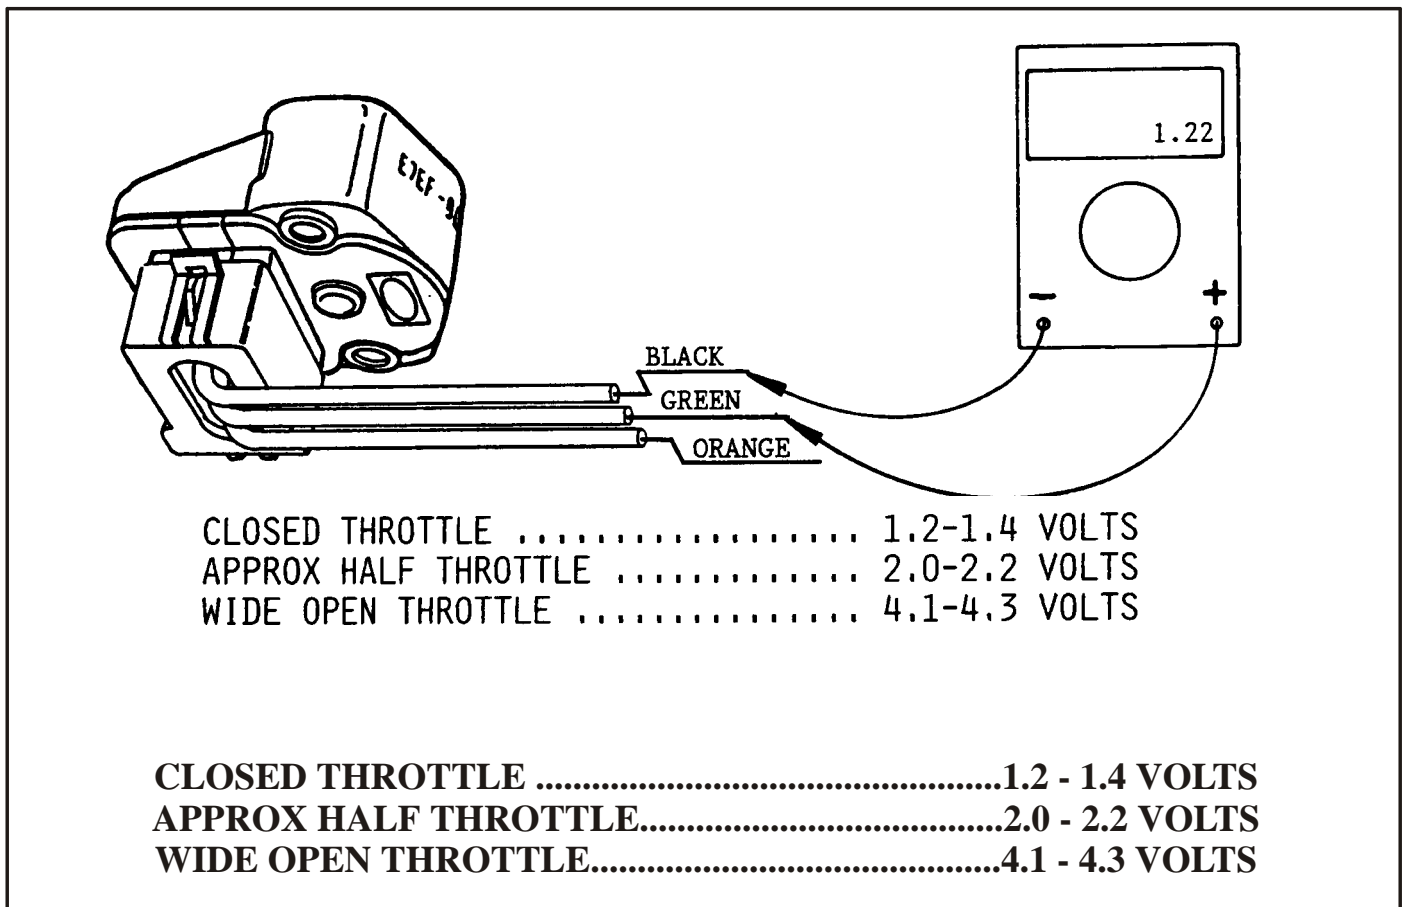

Figure 3
3. With your Volt/Ohmmeter set to DC volts, and the key ON position, back probe the Green wire from the FIPL sensor with the Red lead from your Volt/Ohmmeter, and back probe the Black wire from the FIPL sensor with the Black lead from your Volt/Ohmmeter, as shown in Figure 3.